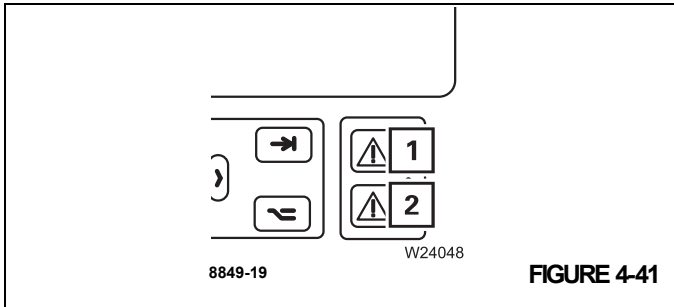

FIGURE 4-41
- the lamps (1), (Figure 4-41) and (2) light up,